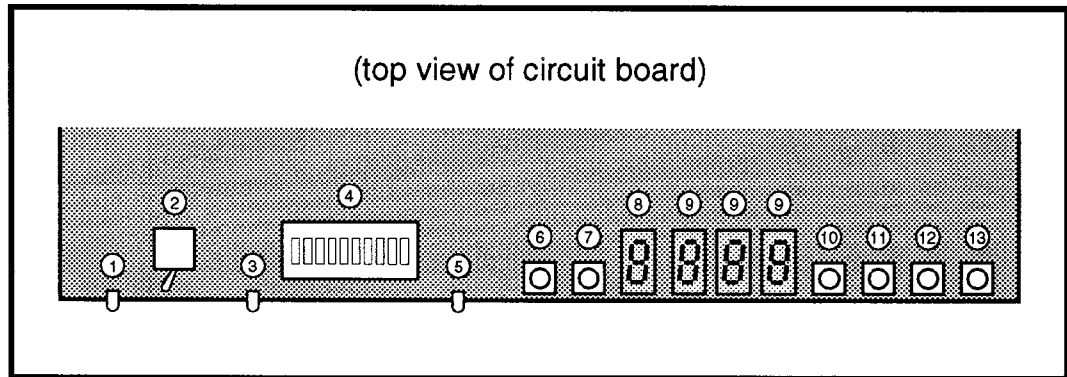

Figure 3-2. Operational controls.
The operational controls consist of the bypass toggle switch, the Operational Selection switch, six momentary switches, three LED indicator lights, and four LED displays, as shown in Figure 3-2.
The dashed paths in the menu chart are used by pressing the <Function> momentary switch. The solid paths are taken by pressing the keys indicated in brackets. The letters in parentheses indicate what the first LED display (number ⑧ in Figure 3-2) shows when that function is selected.
2. Press <Function> until **L**. appears (if it does not already). The function LED display (number ③ in Figure 3-2) shows **L**. followed by the number of the last line programmed.
3. Press <Increment> and <Decrement> to move through the line numbers. The numbers (7 through 31 and 319 through 343) are displayed in the LEDs (④ in Figure 3-2).